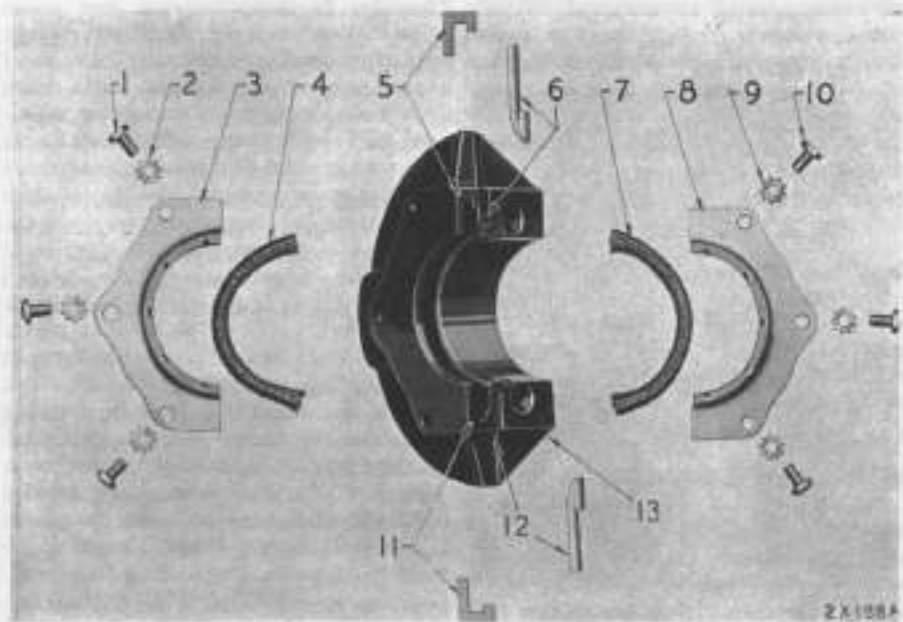

Fig. MH152—Chrysler crankshaft rear oil seal details.
67. A two piece, woven packing ring type seal is used for the shaft seal. Fig. MH152. The upper half of the ring seal is held by a retainer which